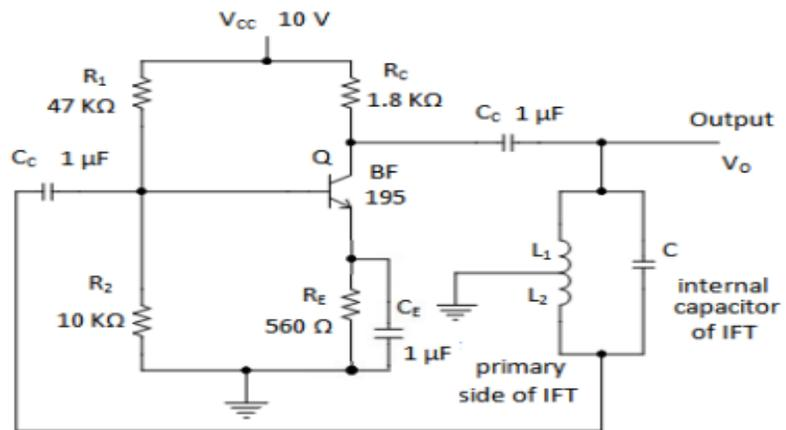

Figure 20.3: Circuit diagram of LC (Hartley) Phase Shift Oscillator
1. Test the components and assemble the circuit on bread board as shown in figure 20.3